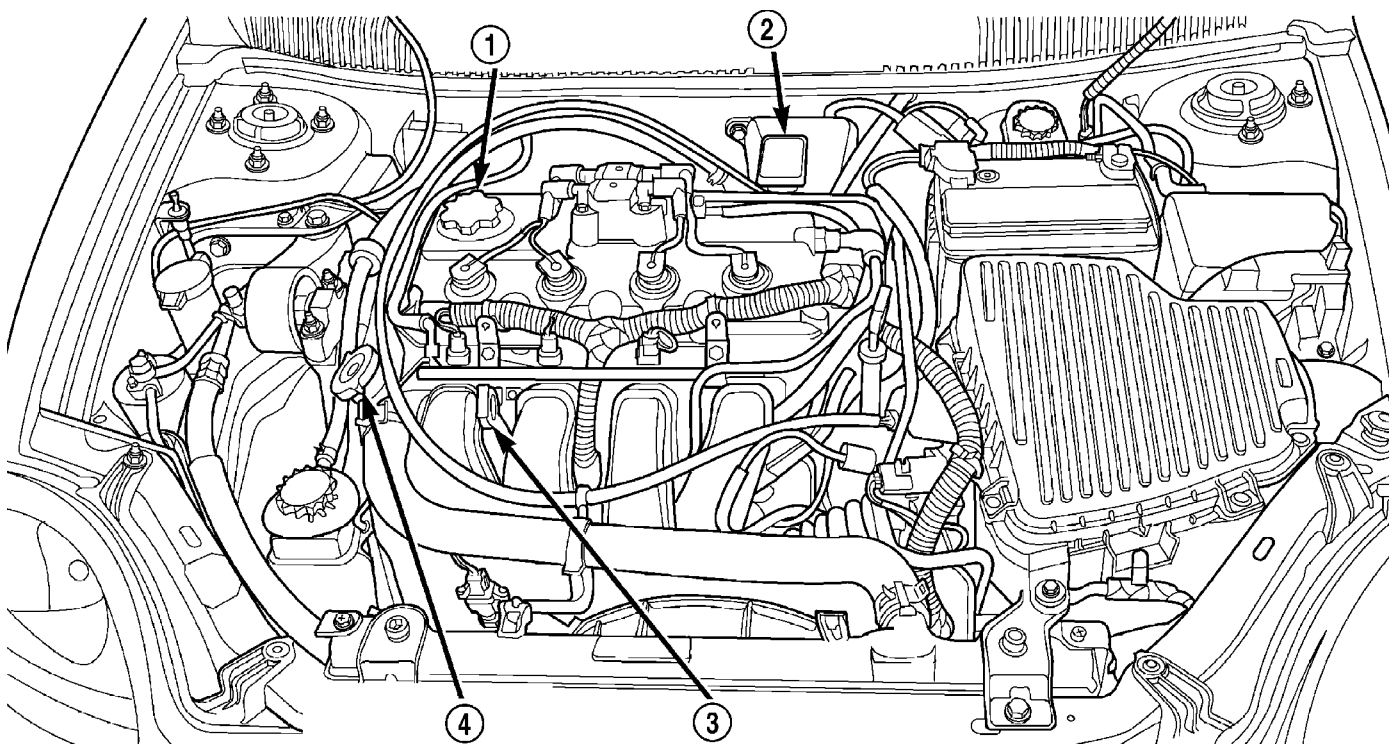
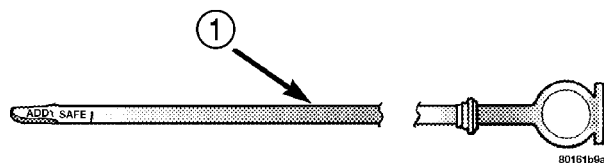
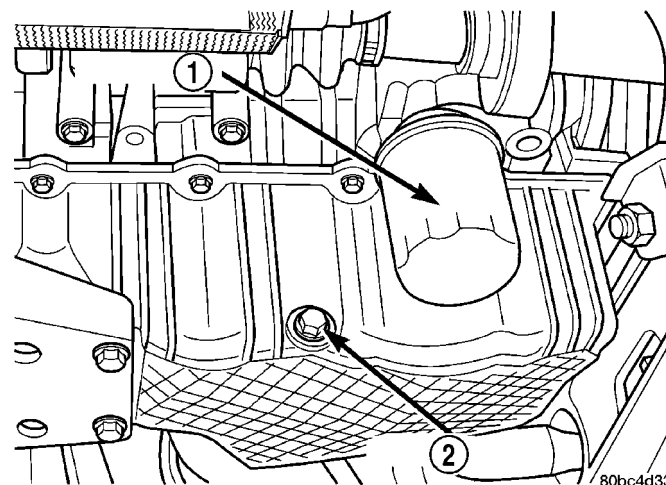

Fig. 107 Dipstick and Engine Oil Fill Locations
Fig. 108 Oil Level
Fig. 109 Engine Oil Filter
Checking the oil while the vehicle is on level ground will improve the accuracy of the oil level reading. Remove dipstick (Fig. 107) and observe oil level. Add oil only when the level is at or below the ADD mark (Fig. 108).
(1) Position the vehicle on a level surface and turn engine off.
(2) Remove oil fill cap (Fig. 107).
(3) Raise vehicle on hoist.
(4) Place a suitable oil collecting container under oil pan drain plug (Fig. 109).
(5) Remove oil pan drain plug and allow oil to drain into collecting container. Inspect drain plug threads for stretching or other damage. Replace drain plug and gasket if damaged.
(6) Remove oil filter (Refer to 9 - ENGINE/LUBRICATION/OIL FILTER - REMOVAL).
(7) Install and tighten oil pan drain plug to 27 N·m (20 ft. lbs.).
(8) Install new oil filter (Refer to 9 - ENGINE/LUBRICATION/OIL FILTER - INSTALLATION).
(9) Lower vehicle and fill crankcase with specified type and amount of engine oil (Refer to LUBRICATION & MAINTENANCE/FLUID TYPES - DESCRIPTION).
(10) Install oil fill cap.
(11) Start engine and inspect for leaks.
(12) Stop engine and inspect oil level.
CAUTION: When servicing the oil filter (Fig. 109), avoid deforming the filter. Use an appropriate oil filter removing tool. Position filter wrench strap close the seam at the base of the filter. The oil filter seam that joins the can to the base, is reinforced by the base plate.
(1) Turn filter counterclockwise to remove (Fig. 109).
(1) Clean and check the filter mounting surface. The surface must be smooth, flat and free of debris or old pieces of rubber.
(2) Lubricate new filter gasket.
(3) Screw filter on until gasket contacts base (Fig. 109). Tighten to 11 N·m (8 ft. lbs.).